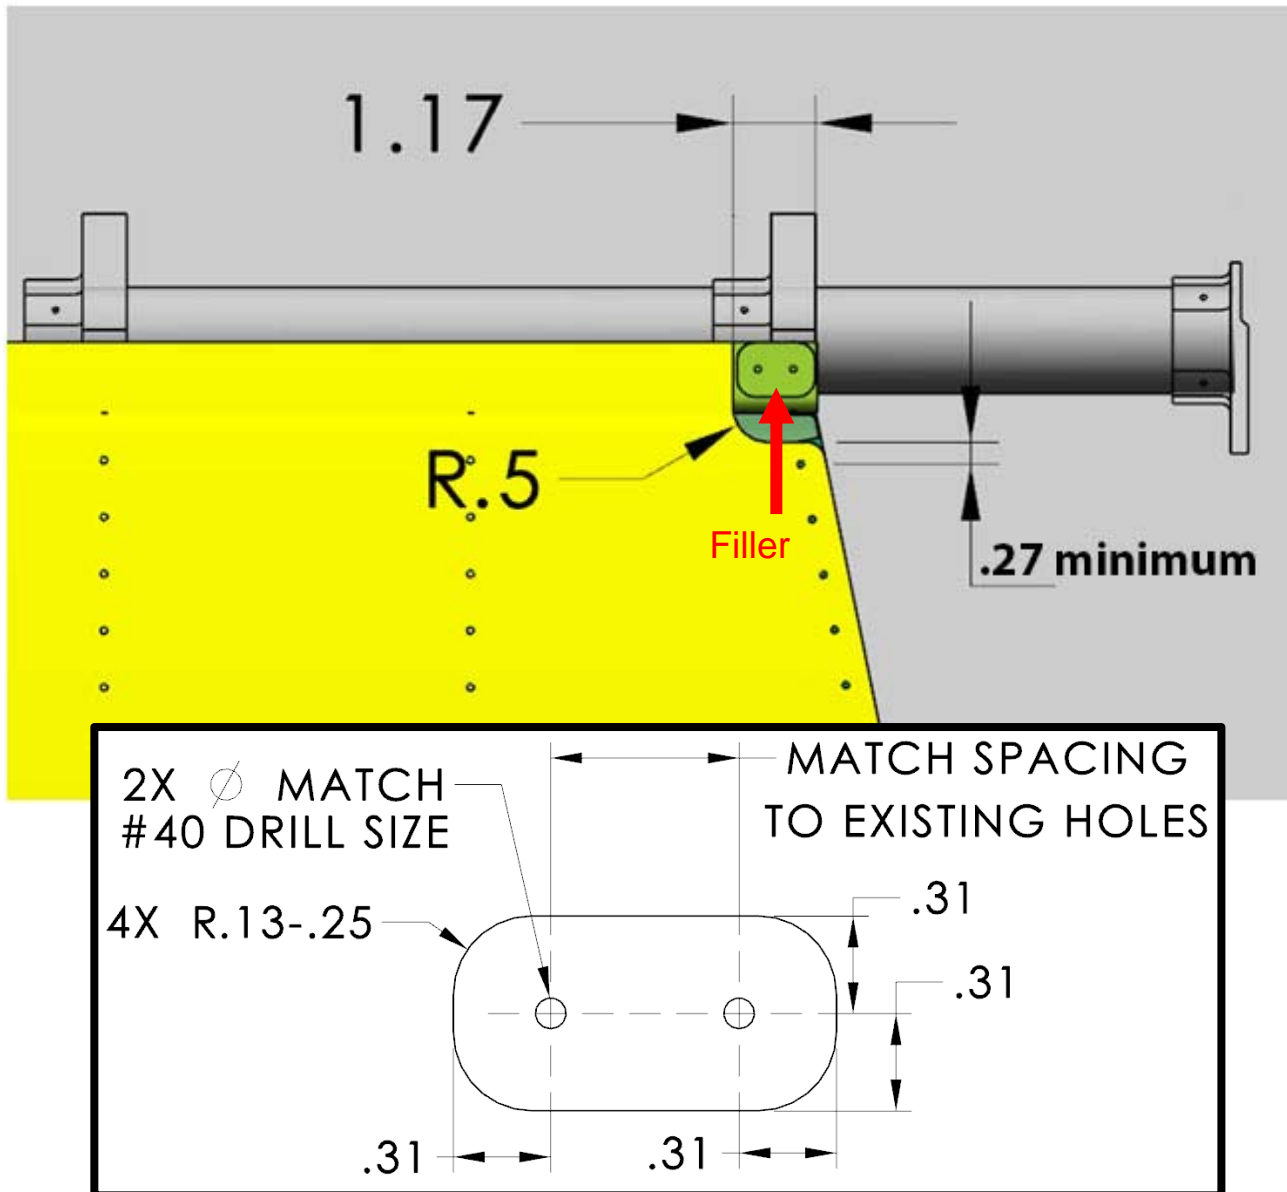

Figure 5-7: Manufacture a Filler
4. Manufacture a filler (from the removed piece or other 2024-T3 clad sheet measuring 0.020 inch thick) as shown in **Figure 5-7**.